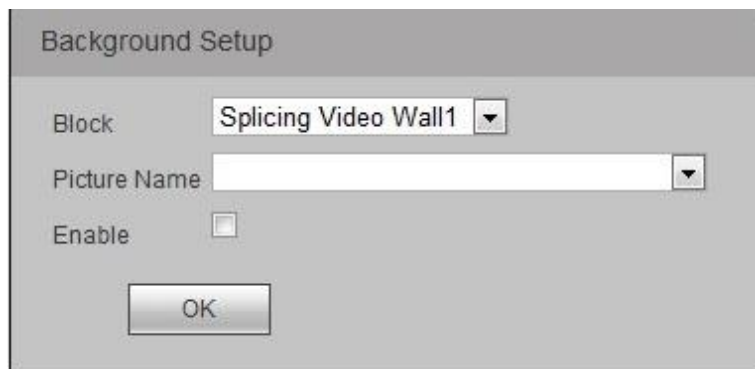

Figure 4-24
Step 1 Click . The system displays "Background Setup" interface, as shown in Figure 4-24.